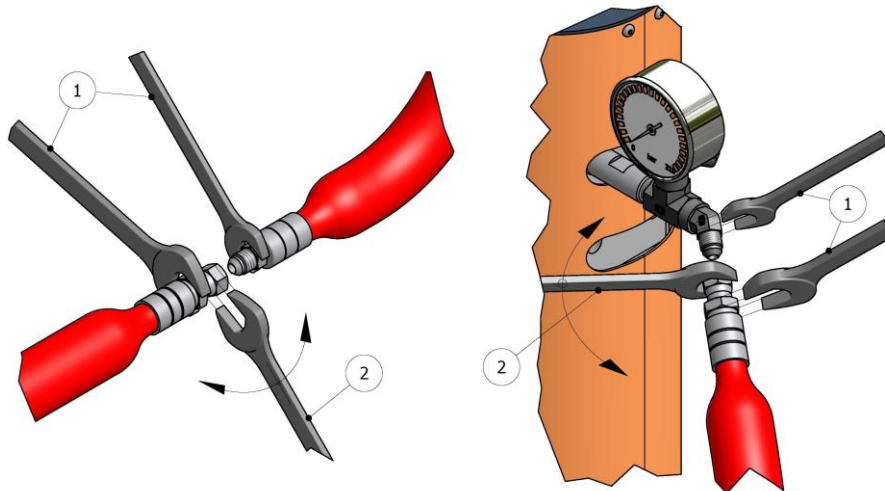

Figure 3. Method of union of the Hoses
WARNING! To join the hoses together or to connect them to the heaters or the gun, use two spanners to hold the parts to be joined (1) and a third spanner to tighten or loosen the connecting nut (2) as shown in the illustrations in Figure 3. The connections must be tightened to indicated in Table 1, pg.18.